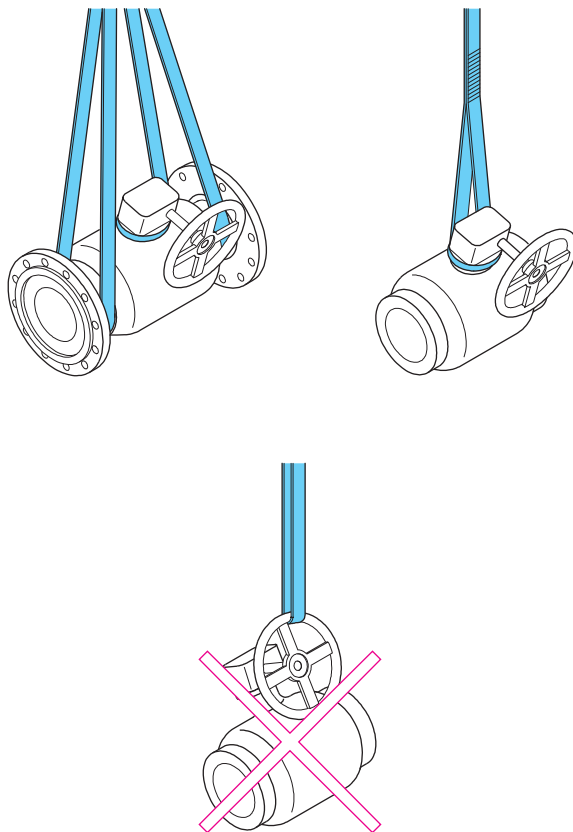

Figure 2. Lifting the valve.
Use lifting ropes when lifting the large size valves. It is forbidden to lift the valve by its actuator or stem (see Figure 2).
- Use one of the allowed lifting methods shown in Figure 2.